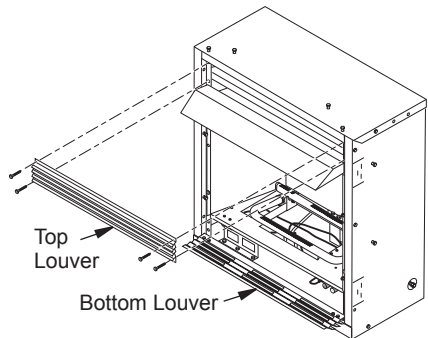

Figure 11 - Removing Top Louver and Opening Bottom Louver
Built-in installation of this fireplace involves installing fireplace into a framed-in enclosure. This makes the front of fireplace flush with wall. An optional brass trim kit accessory is available (see *Accessories*, page 38). Brass trim will extend past sides of fireplace approximately 1/2 inch. This will cover the rough edges of the wall opening. If installing a built-in mantel above the fireplace, you must follow the clearances shown in Figure 11, page 12. Follow the instructions below to install the fireplace in this manner.
1. Unscrew four screws that attach top louver to fireplace. Remove louver from fireplace and set aside (see Figure 11).
2. Remove 4 screws from upper louver (see Figure 11, page 12). Save these screws.
4. Open lower louver door by swinging door down (see Figure 11, page 12).
10. Reinstall upper louver beginning with bottom screws (see Figure 11, page 12). Close lower louver door.
6. Reinstall upper louver beginning with bottom screws (see Figure 11, page 12) and close lower louver.